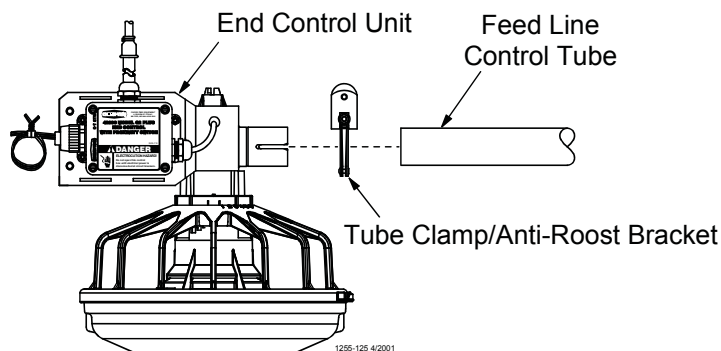

Figure 27. Connecting End Control Unit to the Feed Line Tube
1. Assemble the End Control Unit to the Feeder Line Control Tube using a clamp/anti-roost bracket. See **Figure 27**. **DO NOT INSTALL THE POWER UNIT AT THIS TIME.**